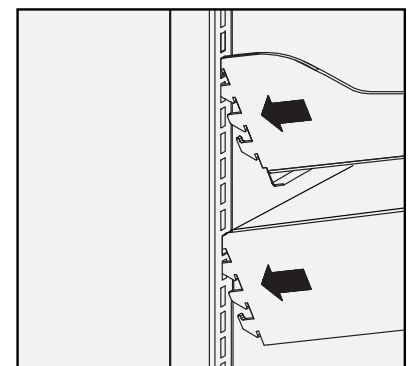

Fig. 8C
- D. Insert Shelf with bracket "teeth" facing downward into vertical slotting on Frame (Fig. 8C).